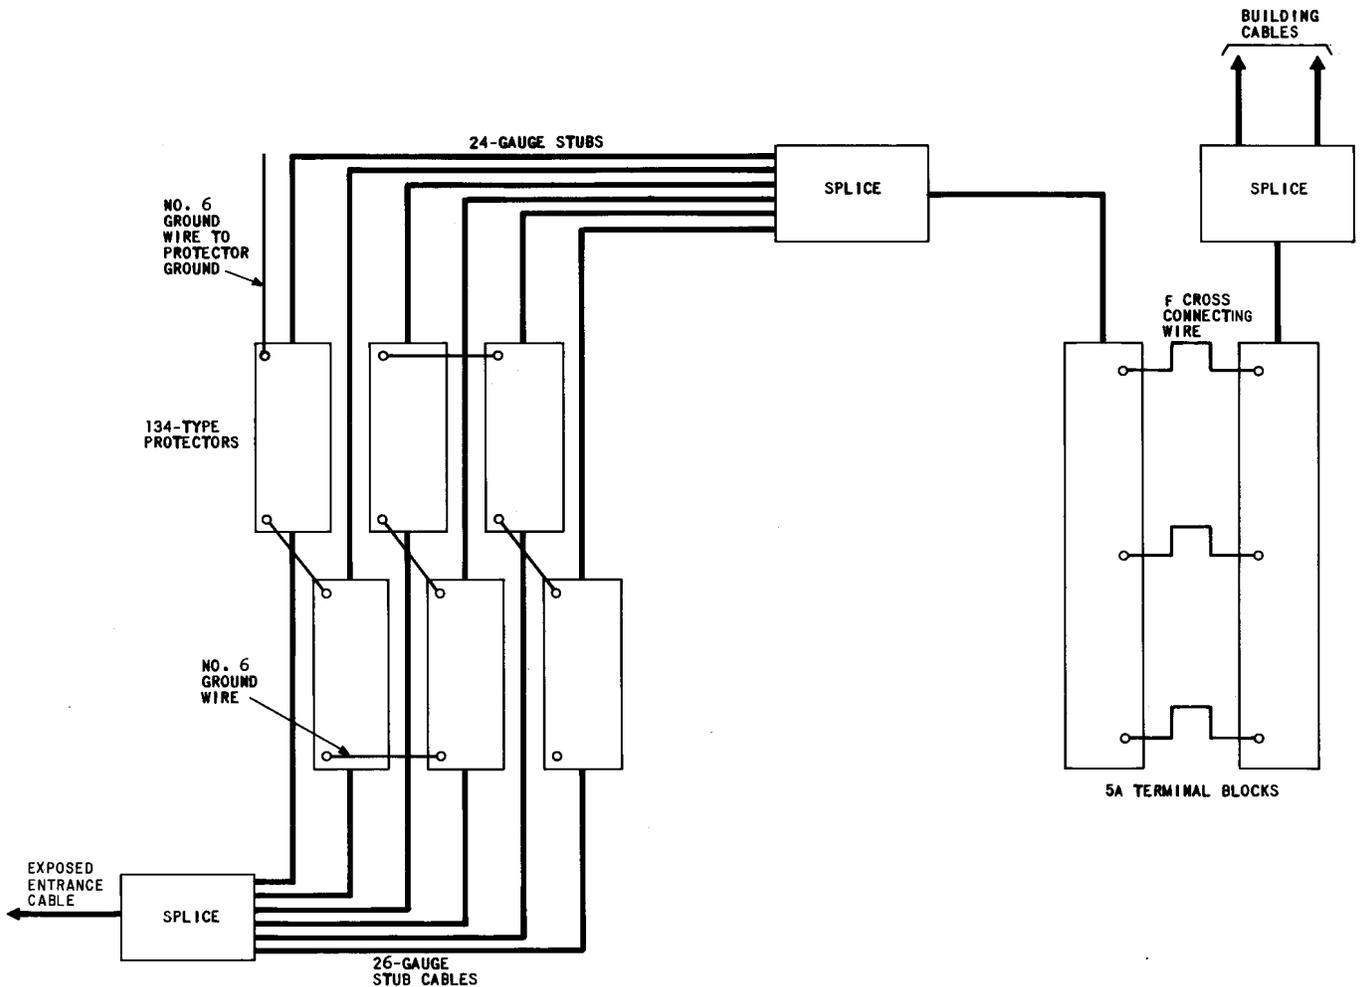

Fig. 17—Wiring Diagram For Splicing Stub Cables
4.25 Splice the stub cables of the 5A type terminal to the building cable as shown in Fig. 17. Enclose the splice with a K and B splice closure as outlined in Section 633-560-101.
5A-type terminal and enclose in a K and B splice closure, then splice the black 26-gauge stub cable to the entrance cable and enclose as outlined in Section 631-460-200. Figure 17 illustrates a diagram for splicing of stub cables.